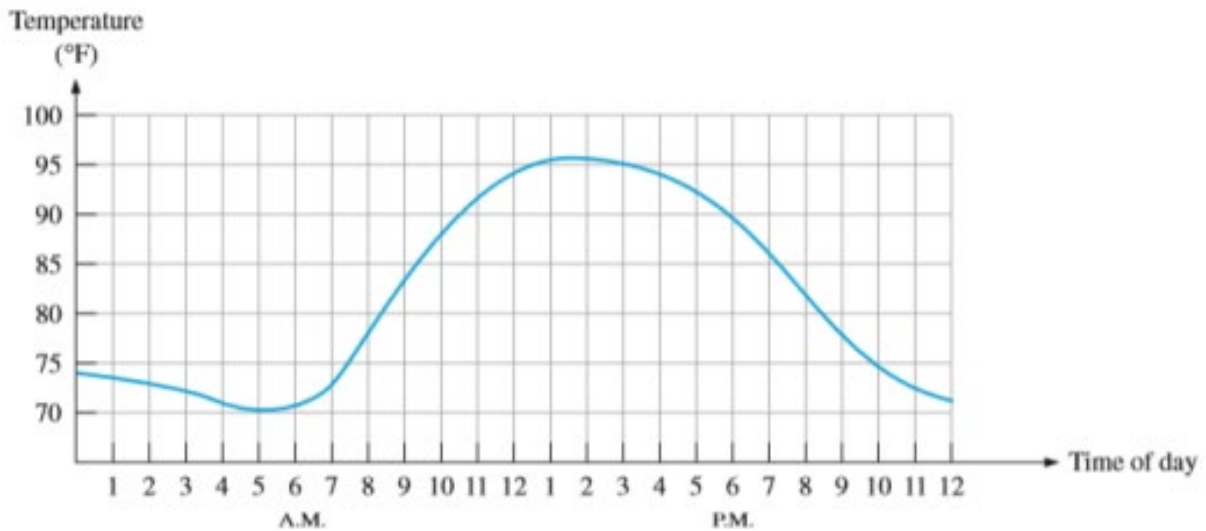

Figure 6.4: *The output of an analogue temperature sensor*
1. **Continuous Output:** Analogue sensors provide an output signal that varies continuously along with changes in the measured parameter. For instance, an analogue temperature sensor outputs a signal that gradually varies as temperature changes are measured over a period of time, just as seen in Figure 6.4.